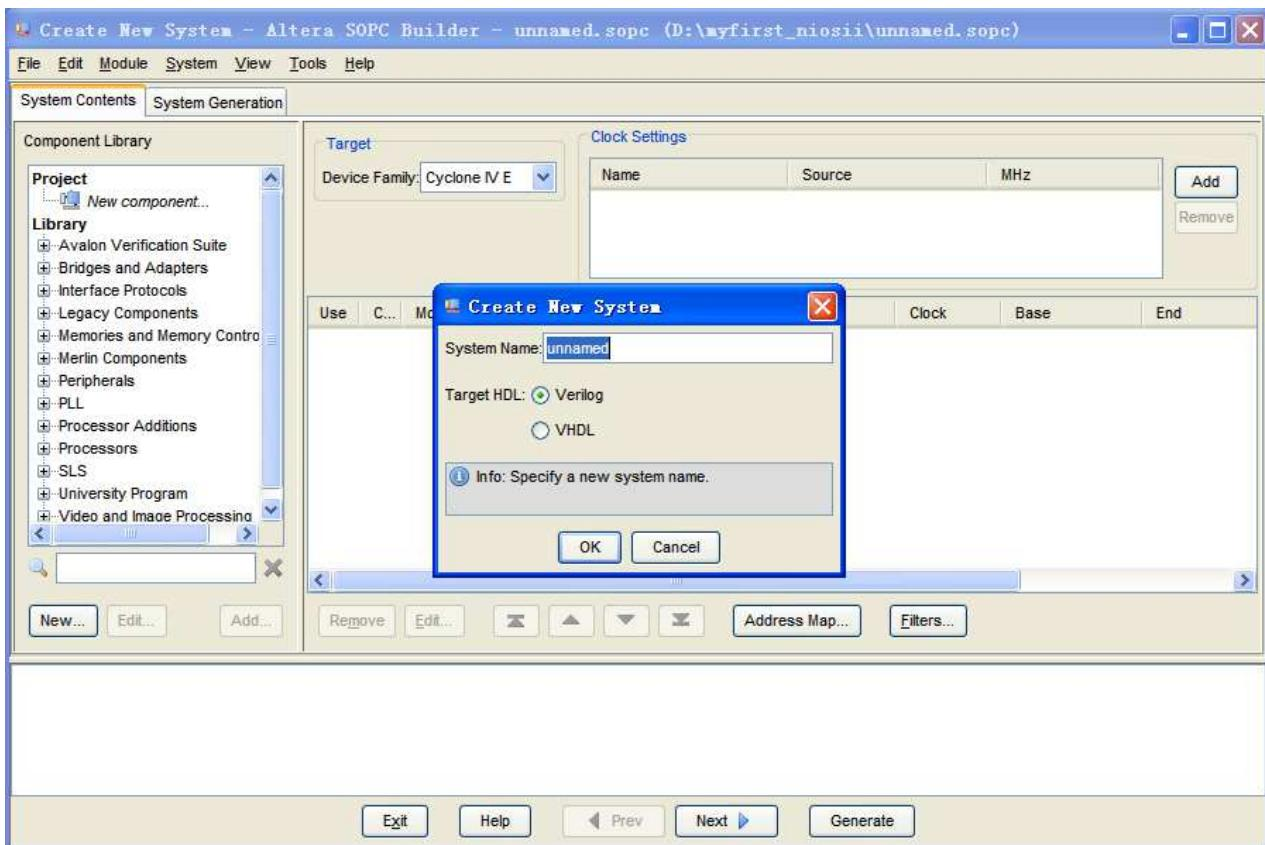

Figure 7-10 Create New SOPC System [0]
6. Rename System Name as shown in **Figure 7-10** and **Figure 7-11**. Click **OK** and you will see a window as shown in **Figure 7-12**.